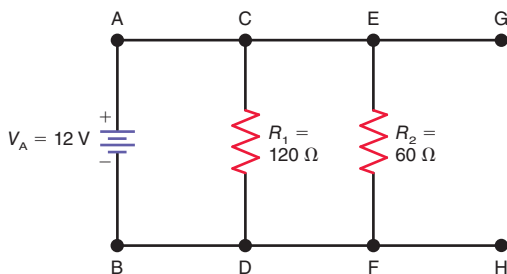

Figure 6-16
- 6.1 In Fig. 6-16, how much voltage is across points
- 6.2 In Fig. 6-16, how much voltage will be measured across points C and D if R_1 is removed from the circuit?
- 6.3 In Fig. 6-16, solve for the branch currents, I_1 and I_2 .
- 6.4 In Fig. 6-16, explain why I_2 is double the value of I_1 .
- 6.5 In Fig. 6-16, assume a $10\text{-}\Omega$ resistor, R_3 , is added across points G and H.
- 6.9 In Fig. 6-16, solve for the total current, I_T .
- 6.18 In Fig. 6-16, solve for R_{EQ} .